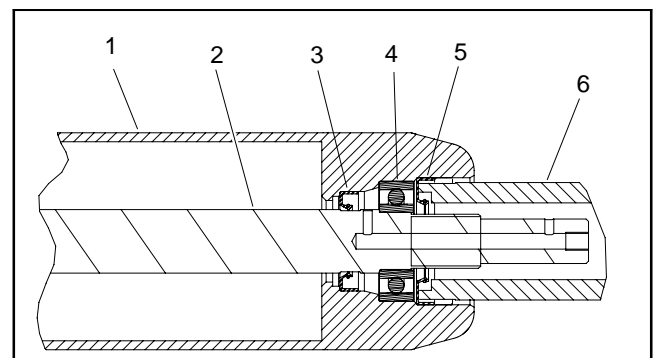

Figure 16
D. Carefully install first outer seal into roller tube making sure that seal lip (and garter spring) faces end of tube. Use bearing/outer seal tool (see Special Tools in this chapter) and soft face hammer to lightly seat seal (Fig. 16). Make sure that shaft and bearings still freely rotate after seal installation.